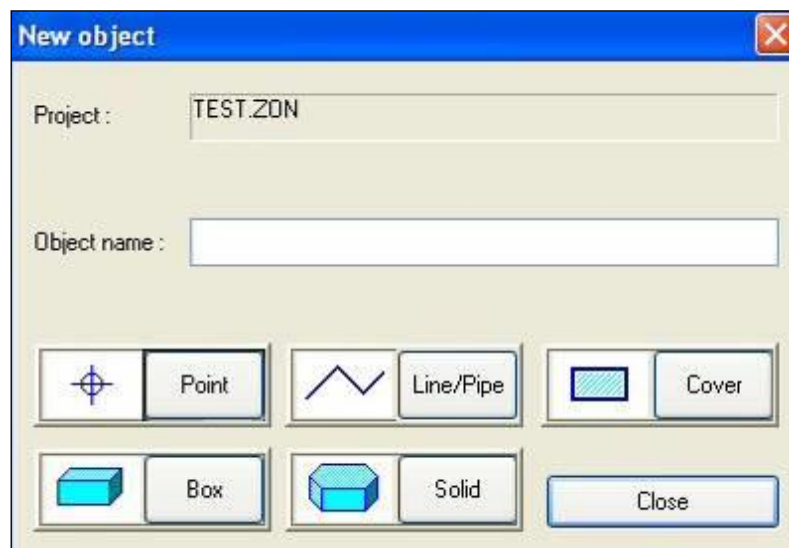
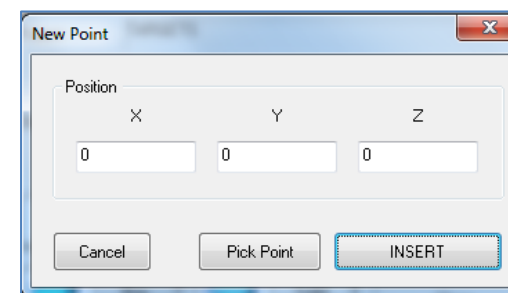

Fig. 119 – New object window
Fig. 120 – Insert X, Y and Z coordinate of New Points
4. Once the project has been selected, the User must click on **Objects creation** command () from the Ids_gcad_xyz toolbar. This command opens the **New object window** (Fig. 119).
5. Point  allow to insert in the AutoCAD file, particularly interesting cartographic points surveyed in the countryside for ex. fixed points. After having defined the point's name in the **Object name** field (Fig. 119), select Point to open the window in Fig. 120.
INSERT allows the user to insert the points in the AutoCAD file after having inserted the X, Y and Z coordinates in the corresponding fields of Fig. 120. The position of the inserted points in the AutoCAD file refers to the CRL previously designed.
7. The line/Pipe button allows to insert in the selected zone, particularly interesting lines taken in the countryside, for example, street borders, fencing, trenches, pipes, etc. After given the line a name in Object name (see Fig. 119) and having pressed Line (see Fig. 121) you may select buttons:
The **Box** command () allow the User to insert in the AutoCAD file 3D elements representing existing, buried infrastructures (Fig. 119).
The **Solid** command () allows the User to insert in the AutoCad file an item having a polygonal structure (Fig. 119). By clicking on the **Solid** command, a window automatically will show up allowing the User to insert in the **Top depth field**, the depth in meters of the shallowest part, and the width in the **Thickness** field of the element to insert (Fig. 126). By activating **PICK POINTS** button, the cursor will become a pointer and the User may design the object's 3D polygonal structure that will be inserted in the AutoCAD file.